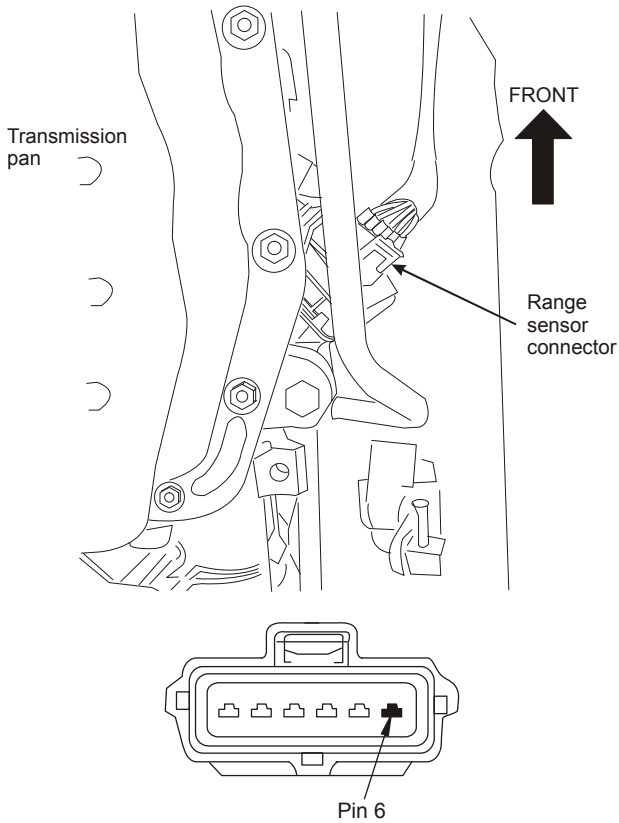

Figure 2
- Solder and seal the blue wire to the yellow wire with the dark blue stripe at pin 6 on the connector (Figure 2).